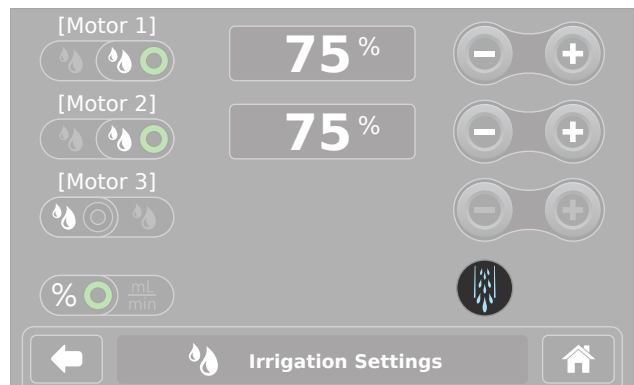

Figure 20 – Irrigation Settings (Flush)
2. Touch and hold  (Flush) until lodged debris is removed (Figure 20).